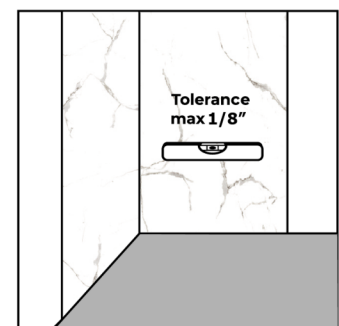

Figure 2
1. Check the flatness of the wall you are installing the panels on using a five foot long level. The maximum allowable tolerance is 1/8 inch, anything more should be filled with some filler material that is fixed to the wall to even it out. **(Figure 2)** Also check that the wall surface you are installing onto is dry and free of moisture. Clean all dust, grease or any other substance that may compromise the adhesion of the panel to the wall.
2. Be aware of the sequence of the panel designs. In most cases, the pattern you have selected comes in 5 different variations, these are always arranged in order of 1 to 5 during production, however they may not be in that order when they are packaged. All panels have a small watermark on the upper left edge where you determine which panel is to follow the recommended order of installation. We recommend you make a small numbering scheme using the watermarks to follow as opposed to visually looking at the panel designs. **(Figure 2)**